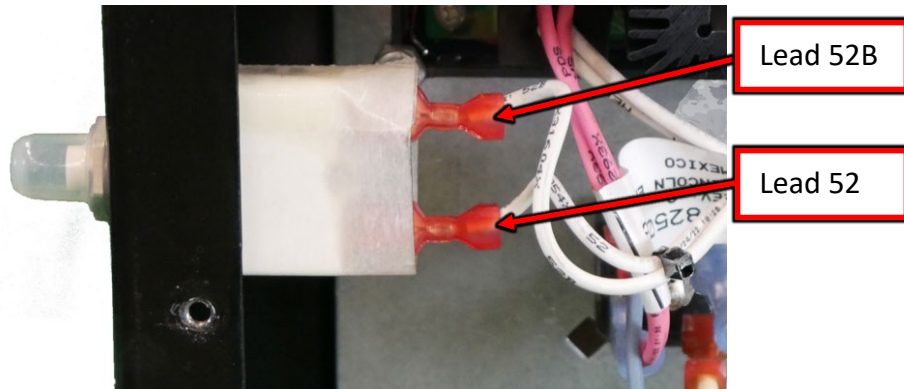

Figure F.2
- A.2. Label and disconnect the following connections, refer to Figure F.2.
- A.3. Perform the static measurements in Test Table 1, refer to Figure F.2 for test point locations. NOTE: MEASUREMENTS ARE TAKEN ON THE TERMINALS NOT LEADS.